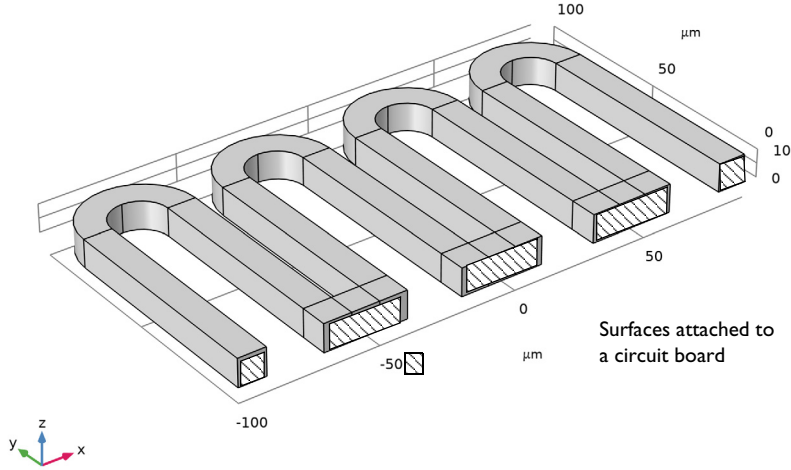

Figure 1: Geometry of the device.
- A force balance for the structural analysis with a volume load caused by thermal expansions. The device is fixed at the positions where it is attached to a circuit board (see Figure 1). The effect of possible thermal expansion for the circuit board is investigated.